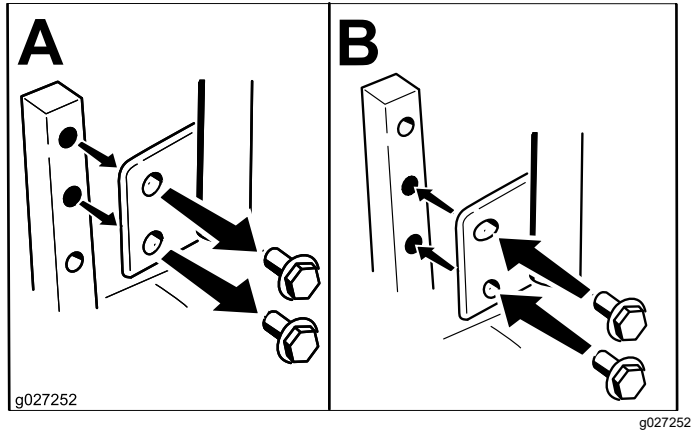

Figure 10
You can adjust the motion-control levers higher or lower for maximum comfort (Figure 10).
2. Loosen the lower bolt just enough to pivot the control lever forward or rearward (Figure 10).